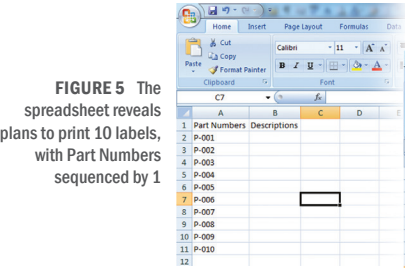

FIGURE 5 The spreadsheet reveals plans to print 10 labels, with Part Numbers sequenced by 1
- B. All the column's numbers will sequence the same as the sequence used in the first two rows (Fig. 5). This example reflects 10 labels, with a sequence of 1.